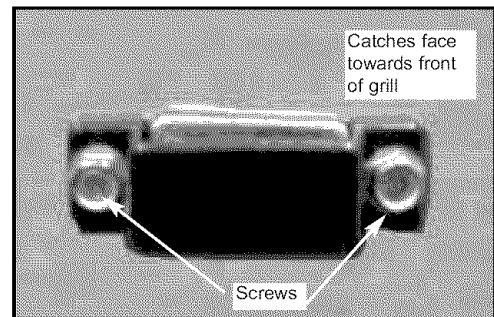

Fig. 6
2. Using 2 self tapping hex head screws, attach the magnetic door catch in the 2 holes in the bottom of the grill. (See Fig. 6)